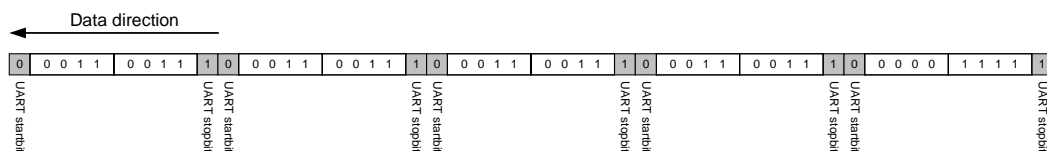

Figure 8. Recommended nRF903 preamble
However, if a microcontroller with a UART is used, the receiving UART will not be able to locate what is the start and stop bits in this sequence. The preamble data should therefore be modified to the following sequence: '0xCC 0xCC 0xCC 0xCC 0xF0' i.e. four bytes of '11001100' followed by '11110000'. The F0-byte makes it possible for the UART to locate the correct position of the start and stop bits (see Figure 8). Please note that the data bits in the figure have been reversed compared to what is specified above. This is due to the fact that UARTs normally reverse data before adding startbit (0) and stopbit (1) to each byte.